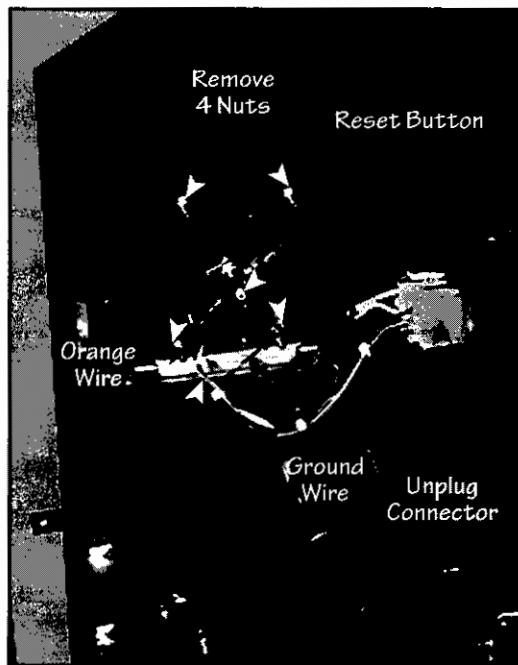

Figure 43 – Heater Removal
The heater is located in the left electronics compartment near the top of the instrument. To replace the heater, follow the steps below and refer to Figure 43. The thermal over-temperature switch is a manual reset type. This switch should only operate in an abnormal condition. It is rated for 10 cycles of operation.
- Reset manual thermostat (see Figure 43 for location of Reset button).